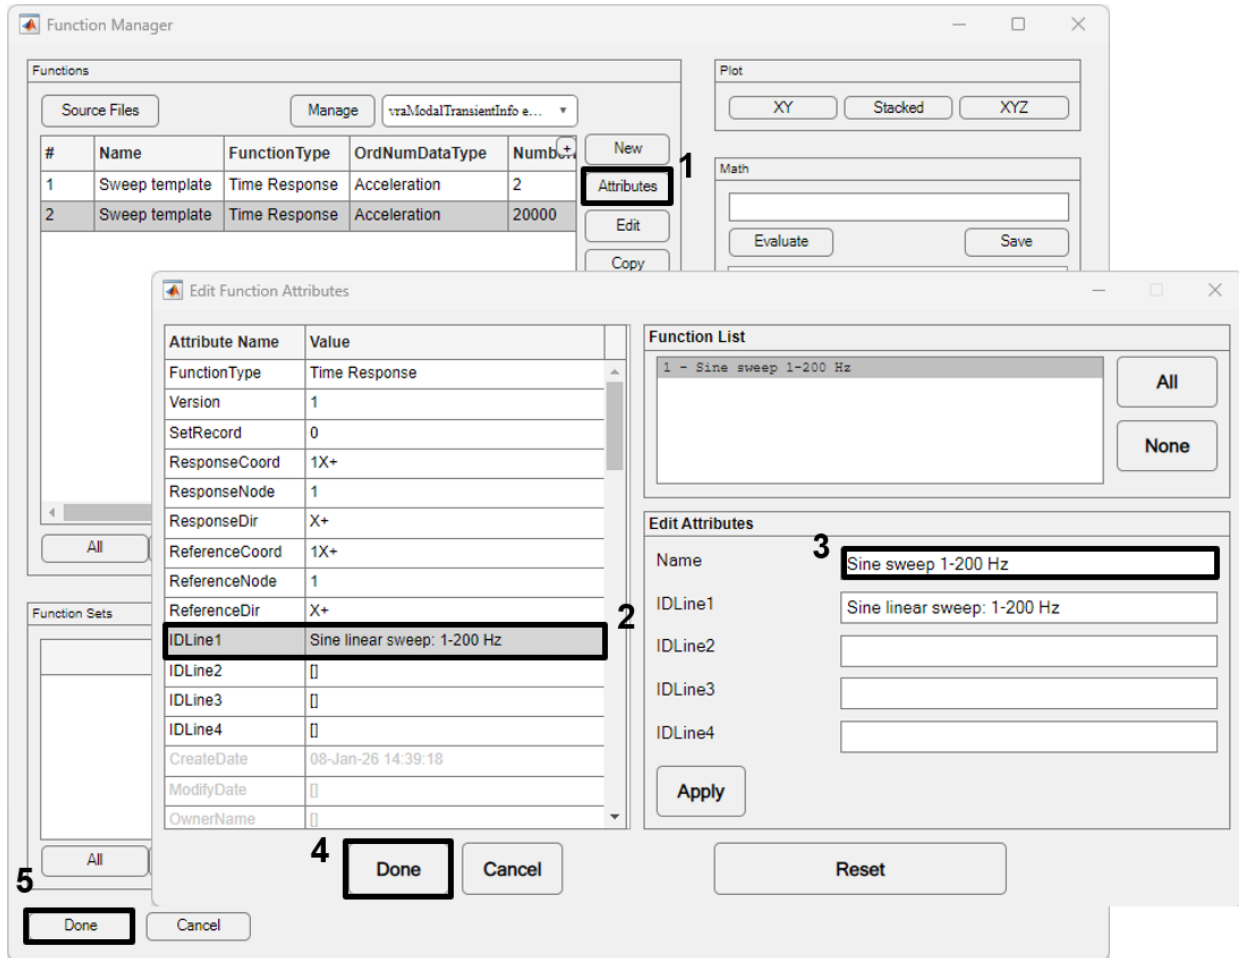
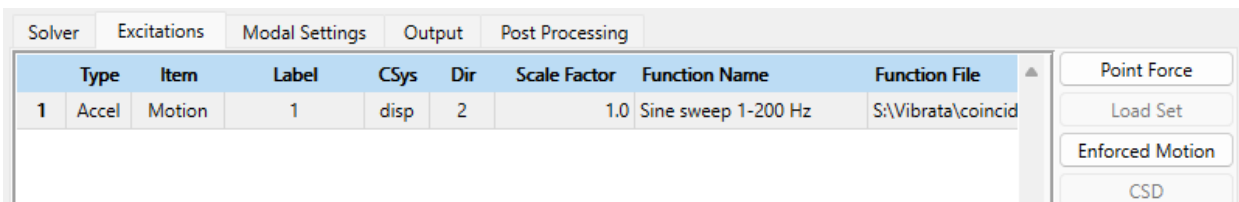

Figure 4-131. Edit the name of the sine-sweep function.
Figure 4-132. The enforced motion excitation definition is complete.
8. Select the newly created frequency sweep function and click **Attributes** to change the function name to "Sine sweep 1-200 Hz" as shown in Figure 4-131. Once you have saved this name, click **Done** to exit the Function Manager to return to the excitation definition dialog. Click **OK** to exit the *Enforced Motion Excitations* dialog to complete the excitation definition, as shown in Figure 4-132.